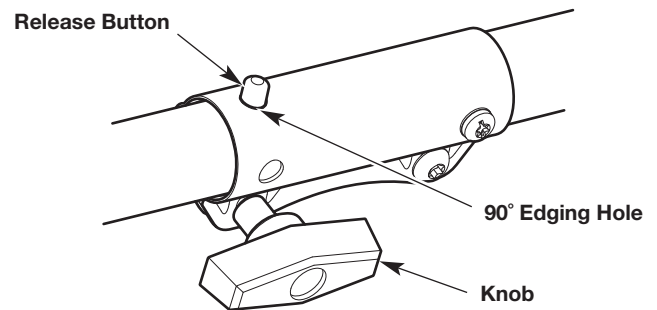

Fig. 23
1. Turn the knob counterclockwise to loosen the coupler (Fig. 23).
2. Press and hold the release button (Fig. 23).
3. Rotate the attachment until the release button snaps firmly into the 90° edging hole (Fig. 23).
4. Turn the knob clockwise to tighten the coupler (Fig. 23).